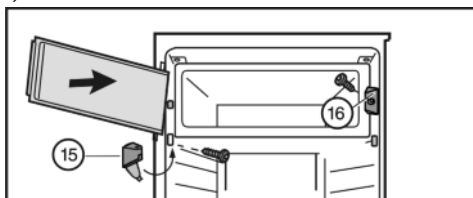

Fig. 7
- ▶ Fit closing element Fig. 7 (16).
- ▶ Fit turn hinge Fig. 7 (15) and fold the cover.